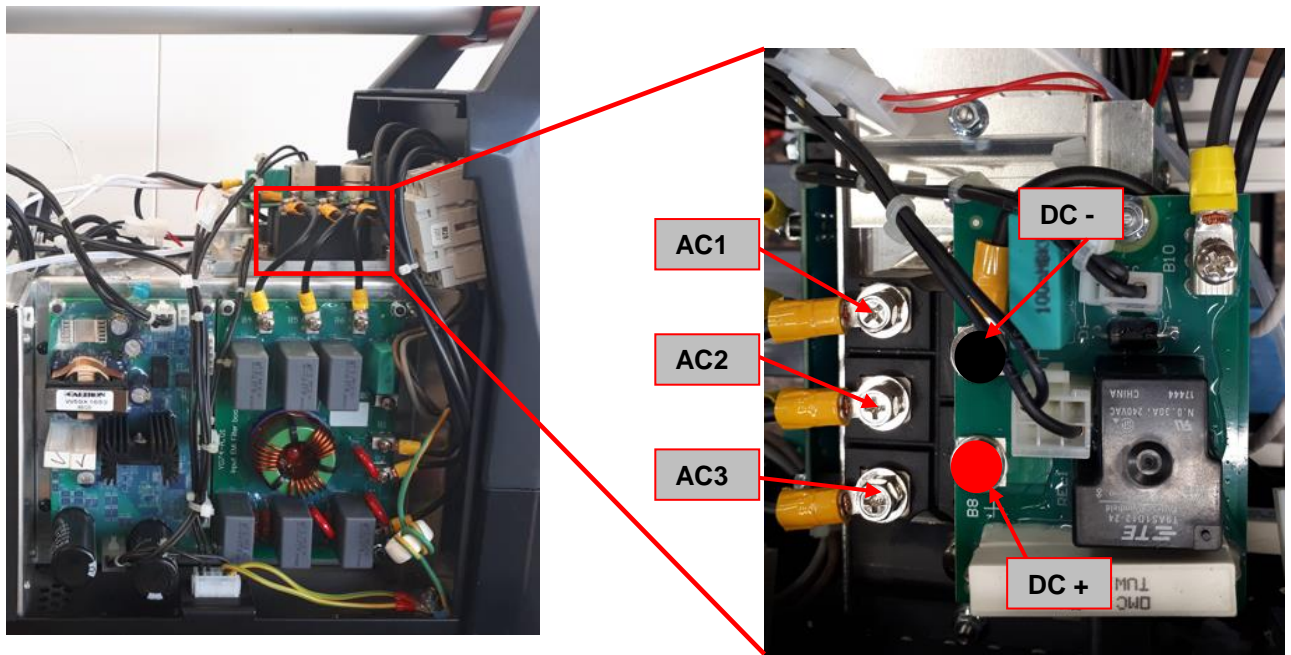

Figure 10 – Input Rectifier Bridge location and Test Points
8. Using the multimeter in VAC and VDC mode perform the tests as indicated in **Test Table 5**. See **Figure 10** for correct test points location.